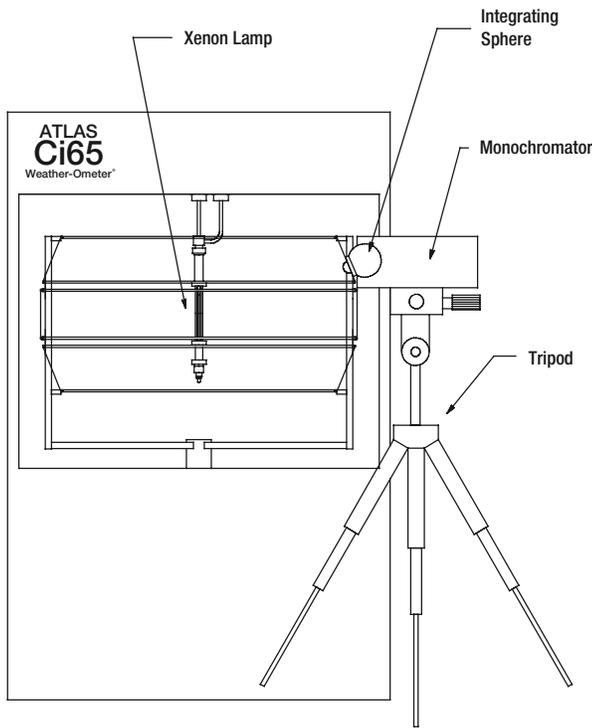

Figure 13: Spectroradiometric measurement in the Weather-Ometer® chamber
- 2) The spectroradiometer is then used to measure a stabilized source, xenon for example, identical to the type used for the testing. This measurement is made *in situ* or in a chamber of identical size and configuration (geometry) as that in which the standard will be ultimately used. The set-up for this procedure is shown in Figure 13.